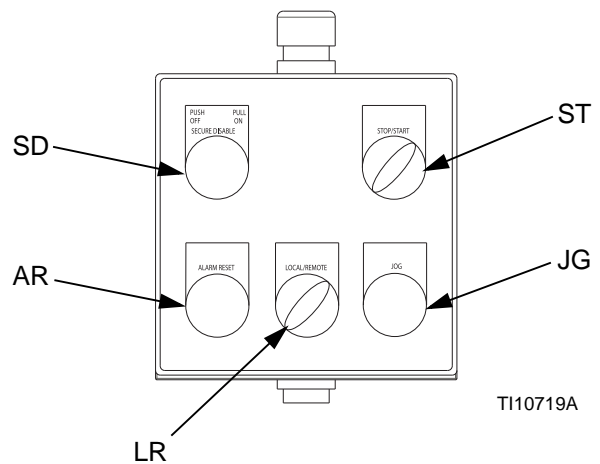

FIG. 4: Local Control Box
The local control box contains five controls. See FIG. 4.
1. Set START/STOP switch (ST) to STOP. See FIG. 4.
2. Push in SECURE DISABLE (SD) switch.
3. Set START/STOP switch (ST) to STOP. See FIG. 4.
3. Push in SECURE DISABLE (SD) switch.
4. Set START/STOP switch (ST) to STOP. See FIG. 4.
5. Pull the SECURE DISABLE switch (SD) out to disengage it.